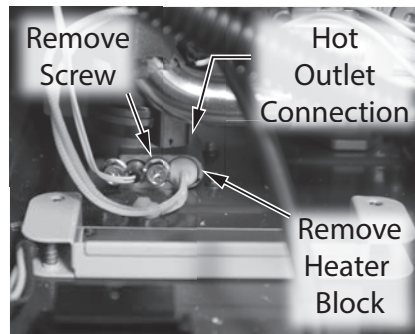

Figure 35 - Remove hot outlet connection heater block
- 14** Locate the screw securing the heater block inside the hot outlet connection as shown in Figure 35. Use a 12" Phillips screwdriver (magnetized) to remove screw. Place screw aside in a safe place for reinstallation. Remove heater block from hot outlet connection.